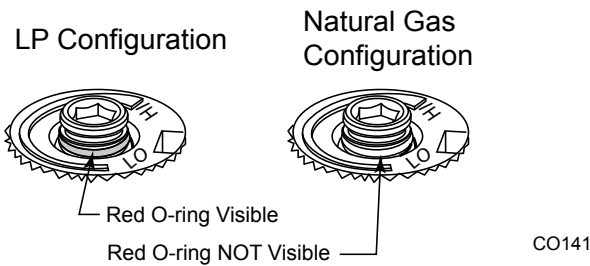

Fig. 77
8. Verify that if the conversion is from NG to LP, the screw must be reassembled with the red o-ring visible. (Figure 77)